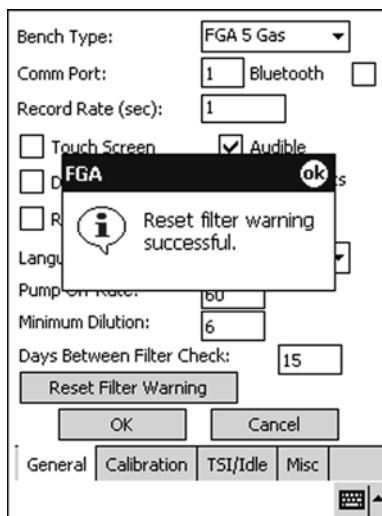

Figure 2G-35: Reset Filter Warning Successful
**Days Between Filter Check:** You can set the time period between warnings using the Days Between Filter Check text box shown in *Figure 2G-34* and *Figure 2G-35*. Customize this time period according to how you use your **FGA** ranging from the minimum period of 15 days to a maximum of 30 days.